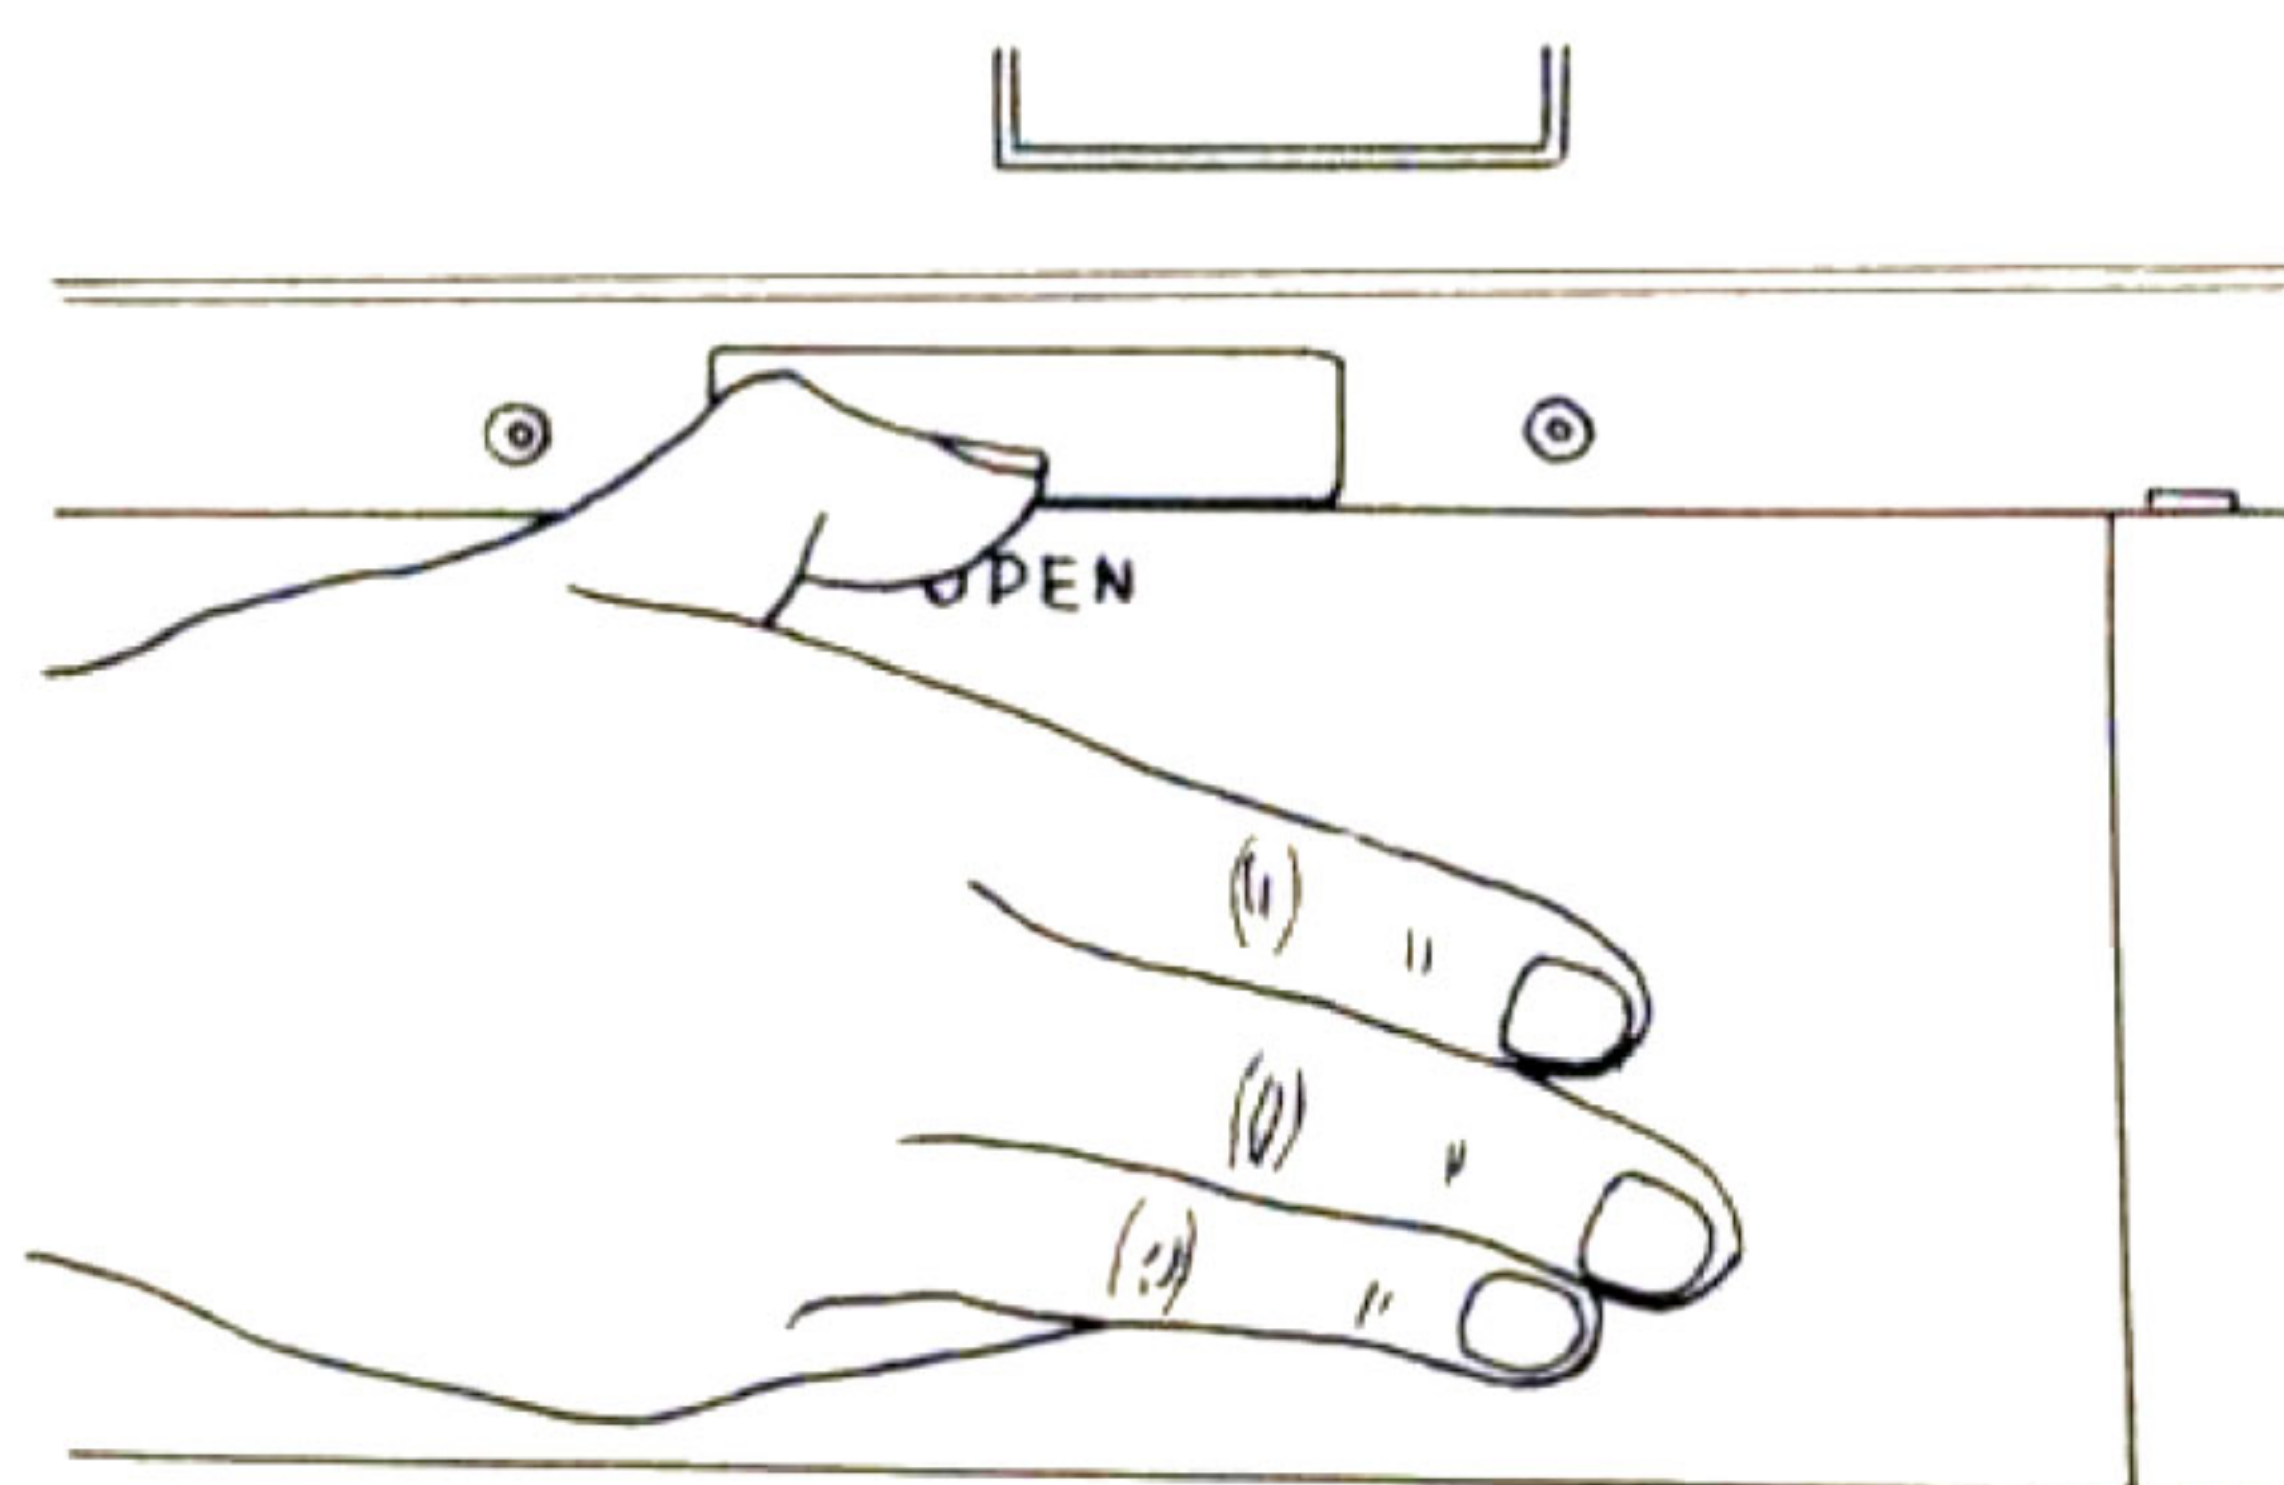

Fig. 1
- Open the battery cover by your fingers as indicated on battery cover. (Fig.1)